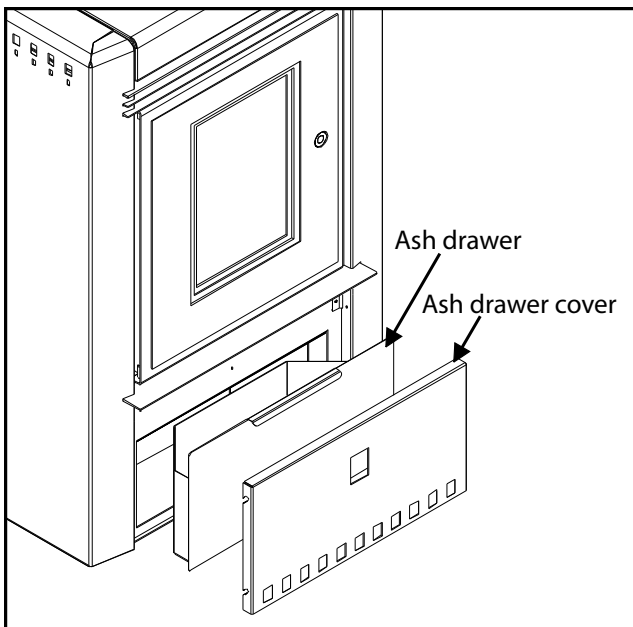

Figure 8
2. Remove the ash drawer cover (see Figure 8).